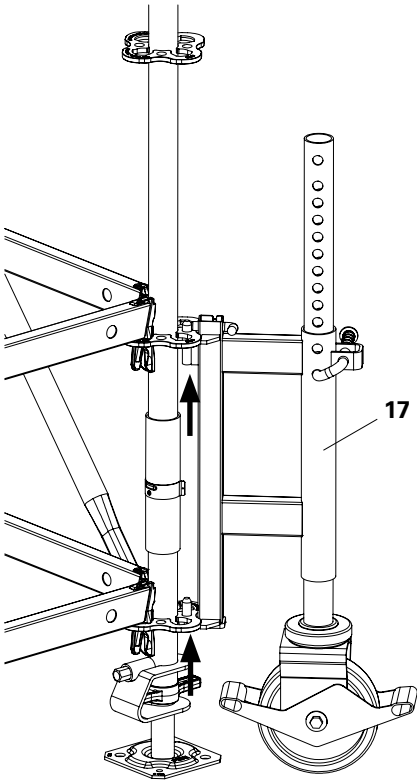

Fig. B1.04
- 2. Peg the tube on the Transportation Wheel UEW (17), depending on the extension length of the Base Spindle.
- Fig. B1.04 + B1.04a